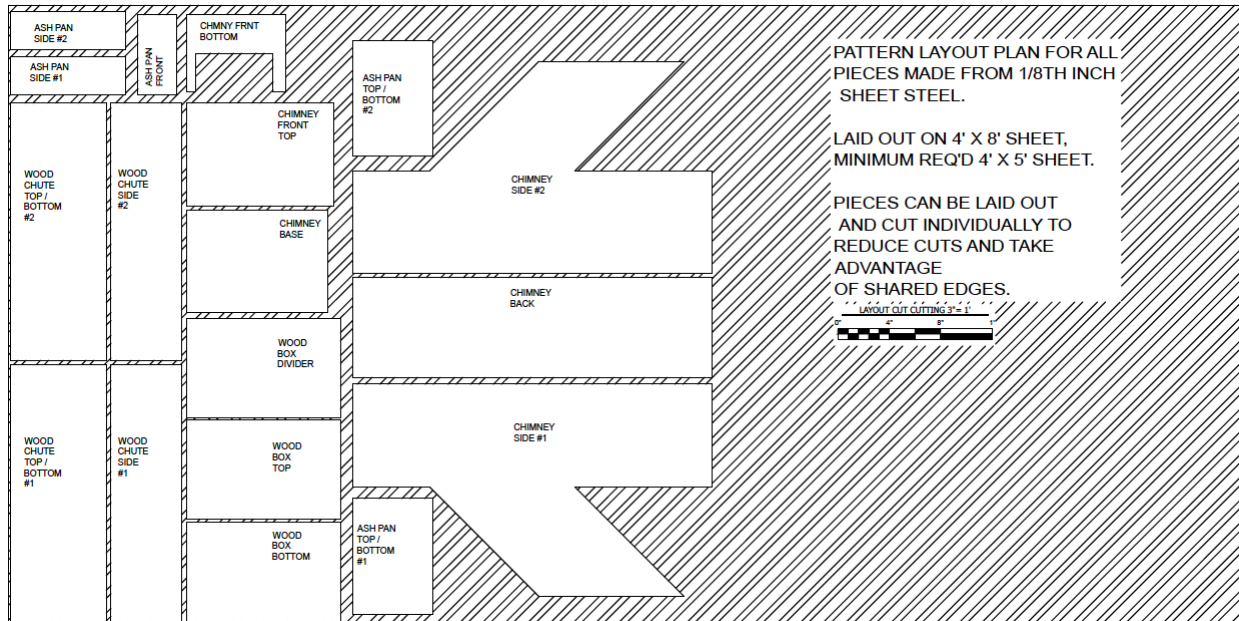

Figure 4 - Pattern Layout for 1/8th Inch sheet steel for most efficient use of steel. (Image credit: Future Generations University)
10. Tack the “Chimney Base” to the bottom of the chimney assembly. The “Chimney Base” will sit proud of the bottom of the chimney to help stabilize the structure (see Figure 4).